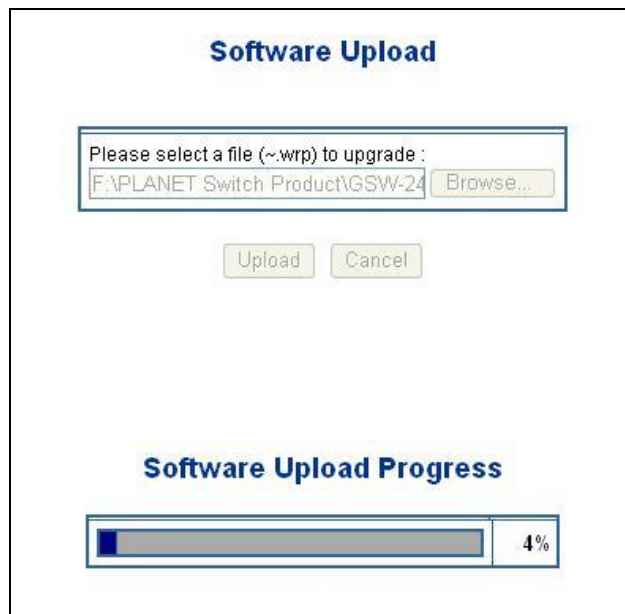

Figure 4-53 Firmware Upgrade screen
2. The Firmware Upgrade screen is displayed as in Figure 4-53.